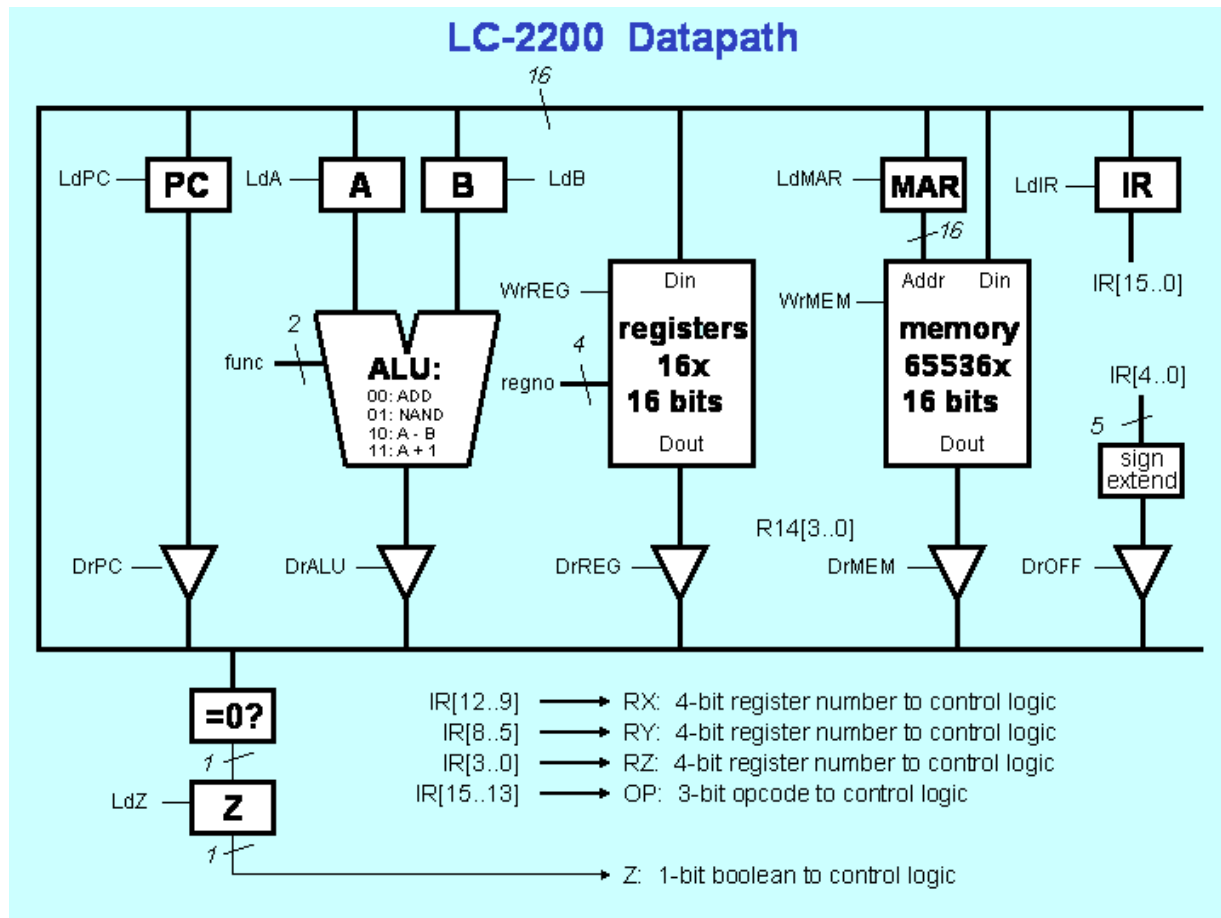

Figure 1: Datapath for the LC 2200 Processor
Please use figure 1 while constructing your datapath in Logisim.
2. Implement the Microcontrol Unit using Logisim. The above link contains all of the necessary information. Take note that the input and output signals on the schematics directly match the signals marked in the LC 2200 datapath schematic (see figure 1).
3. Connect the completed control unit to the datapath you implemented in Phase 1. Using the figure 1 and the microcontrol unit schematic, connect the control signals to their appropriate spots.